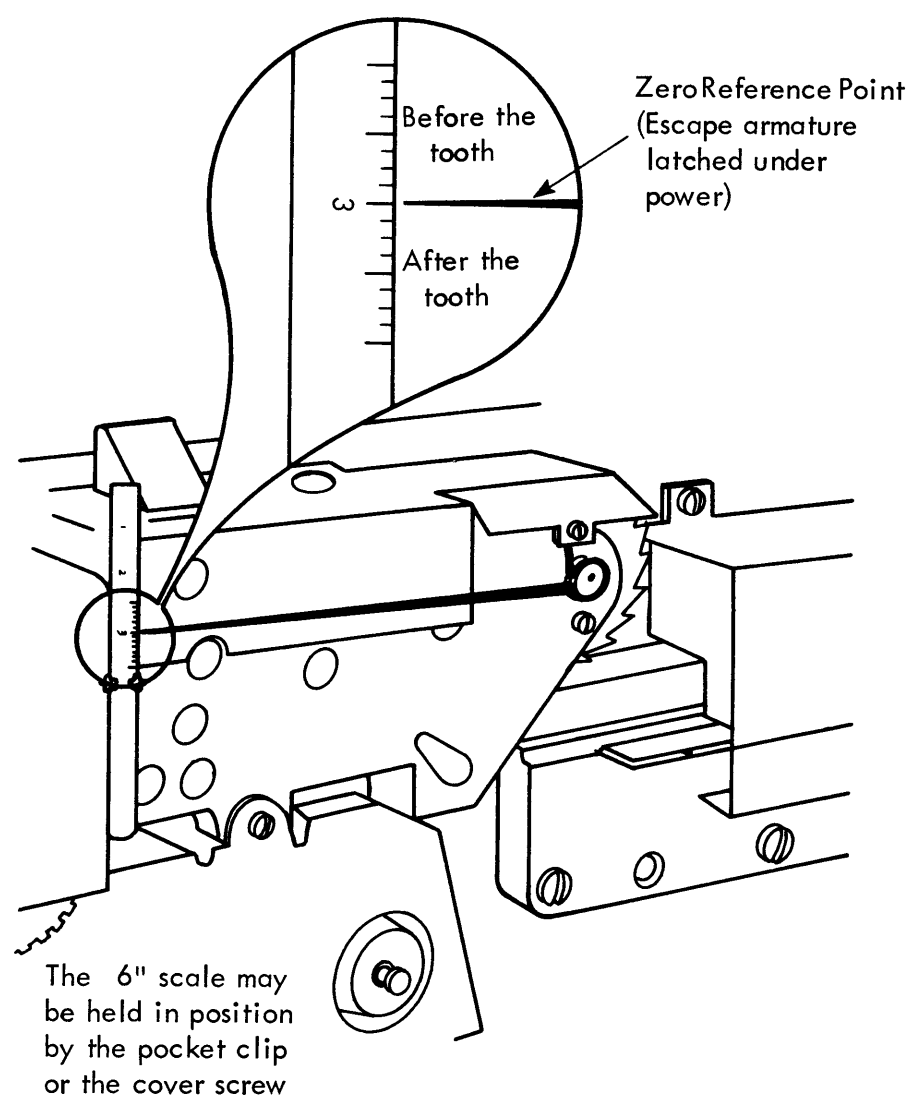
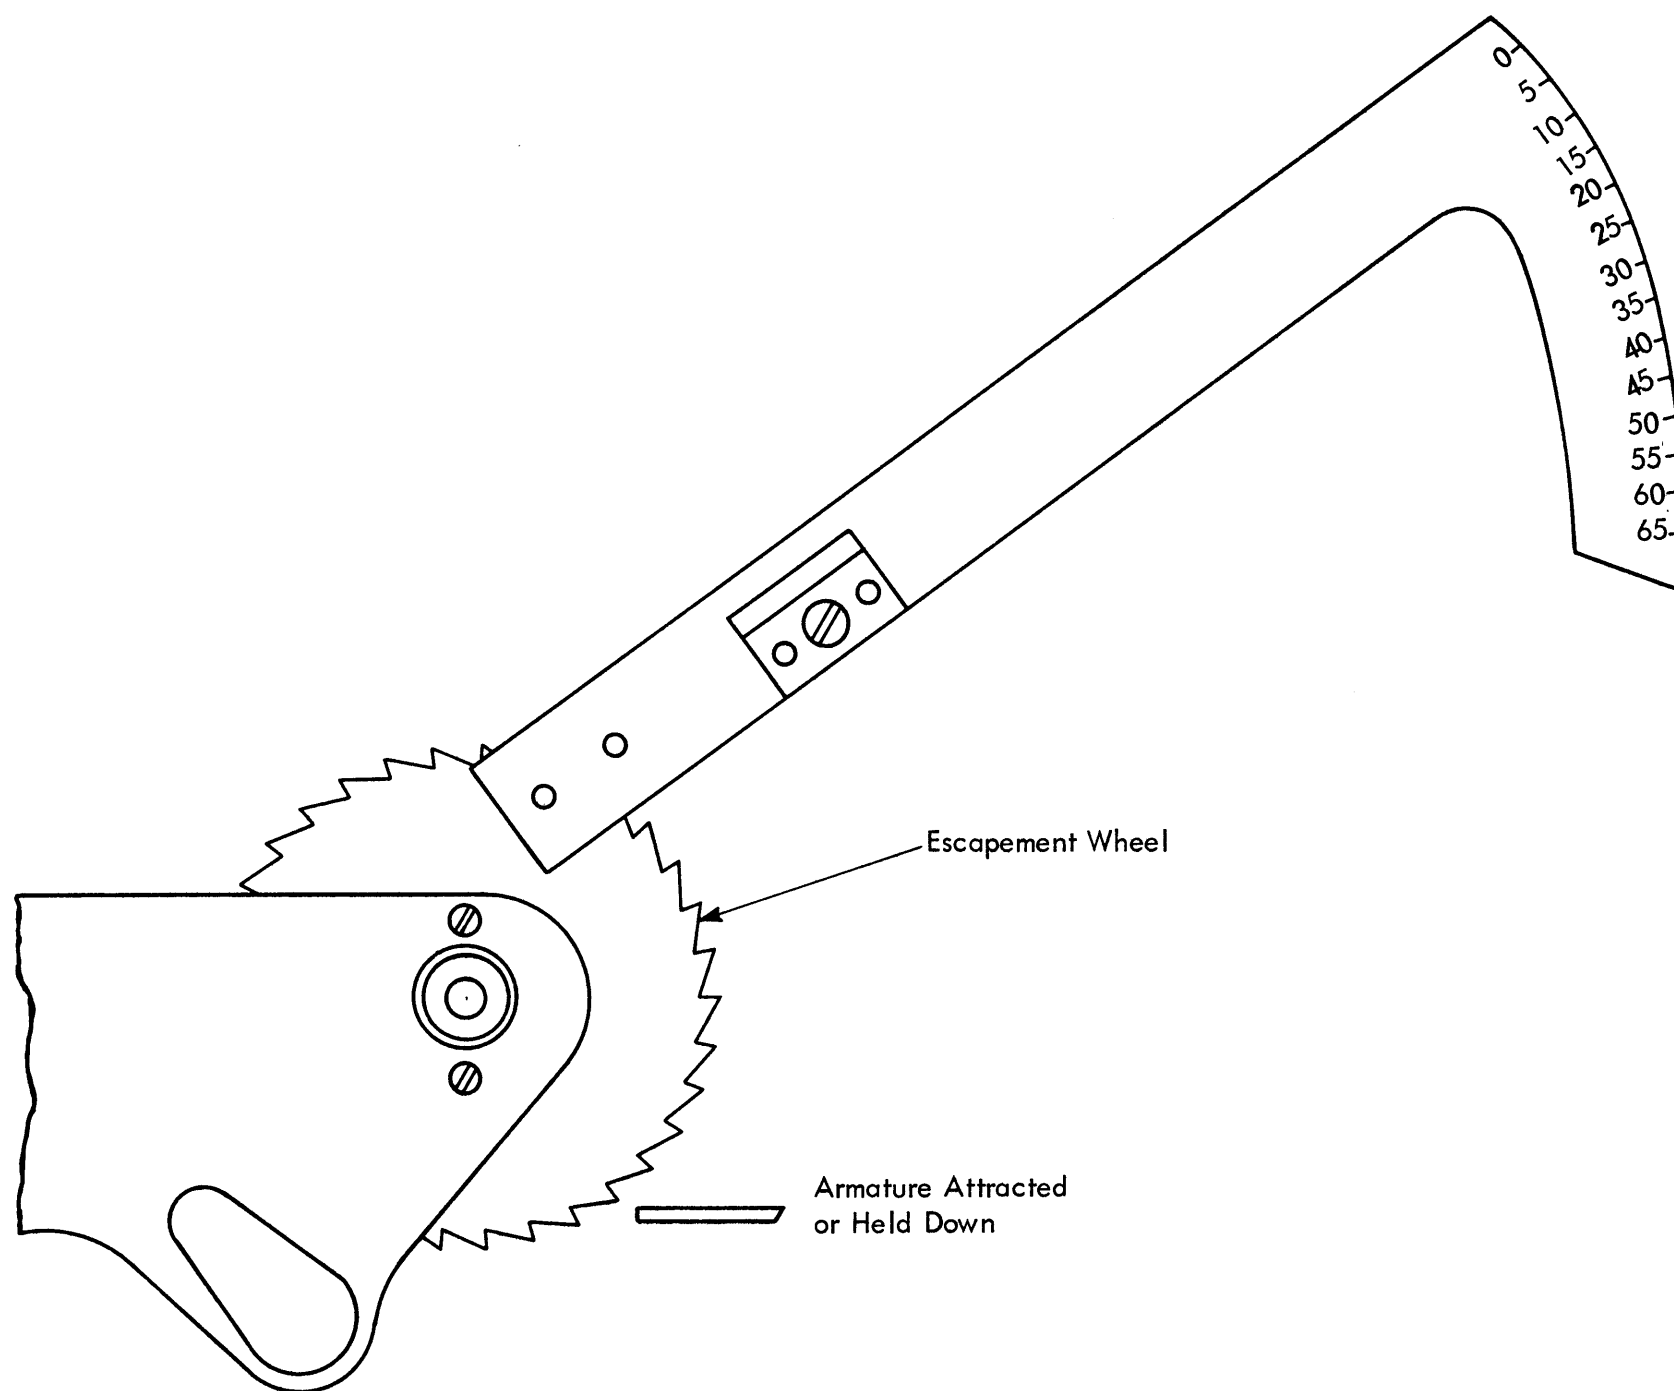

Figure 4-35. Timing Tool
Figure 4-37. Method of Holding Escapement Wheel
With the escapement armature stopping the escapement ratchet tooth and machine power on, a zero reference point is established at any single column of the program unit by using the timing tool, part 453160 (Figure 4-35). The use of millisecond (ms) notation instead of 1/12 of an escapement tooth is to aid in determining relationships of the program unit timing to the escapement during a skip operation and does not imply using an oscilloscope.
3. Set timing tool and 6-inch scale as shown in Figure 4-35.
4. With the 11-starwheel fully seated in a hole near column 40 of the program card, rotate the escapement wheel in both directions. Adjust the 11-starwheel contact for 9-ms duration as shown in Figure 4-36. (This is a dynamic adjustment requiring motor drive.) Figure 4-37 is a guide for holding the escapement wheel while making this adjustment.
Using the same program card as that used in adjusting starwheel duration, locate an 11-hole near column 40. Center the 11-starwheel timing by adjusting the forked arm for 4.5-ms duration on both sides of the escapement wheel tooth as shown in Figures 4-35 and 4-36. (This is a dynamic adjustment requiring motor drive.) Figure 4-37 is a guide for holding the escapement wheel while making the adjustment. Timing the 11-starwheel automatically times the remaining starwheels.